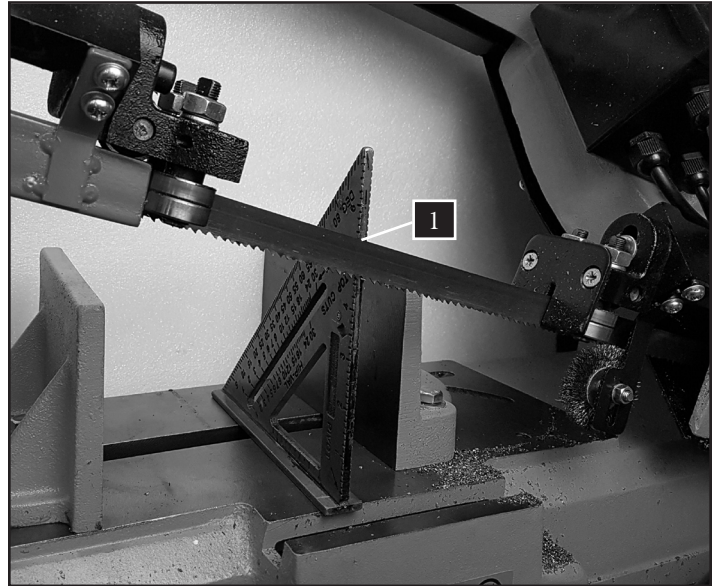

Fig. 17
3. Place a square (combination, machinist's, etc.) flat on the table against the blade (Fig. 17 - 1).